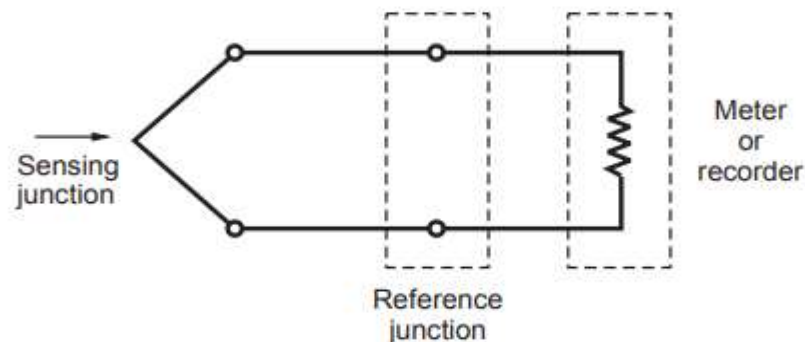

Fig. 1.16.2 Thermocouple
- When the reference junction is terminated by a meter or recording instruments as in Fig. 1.16.2 the meter indication is proportional to the temperature difference between the hot junction and the reference junction. This thermoelectric effect, caused by contact potentials at the junctions, is known as the Seebeck effect.